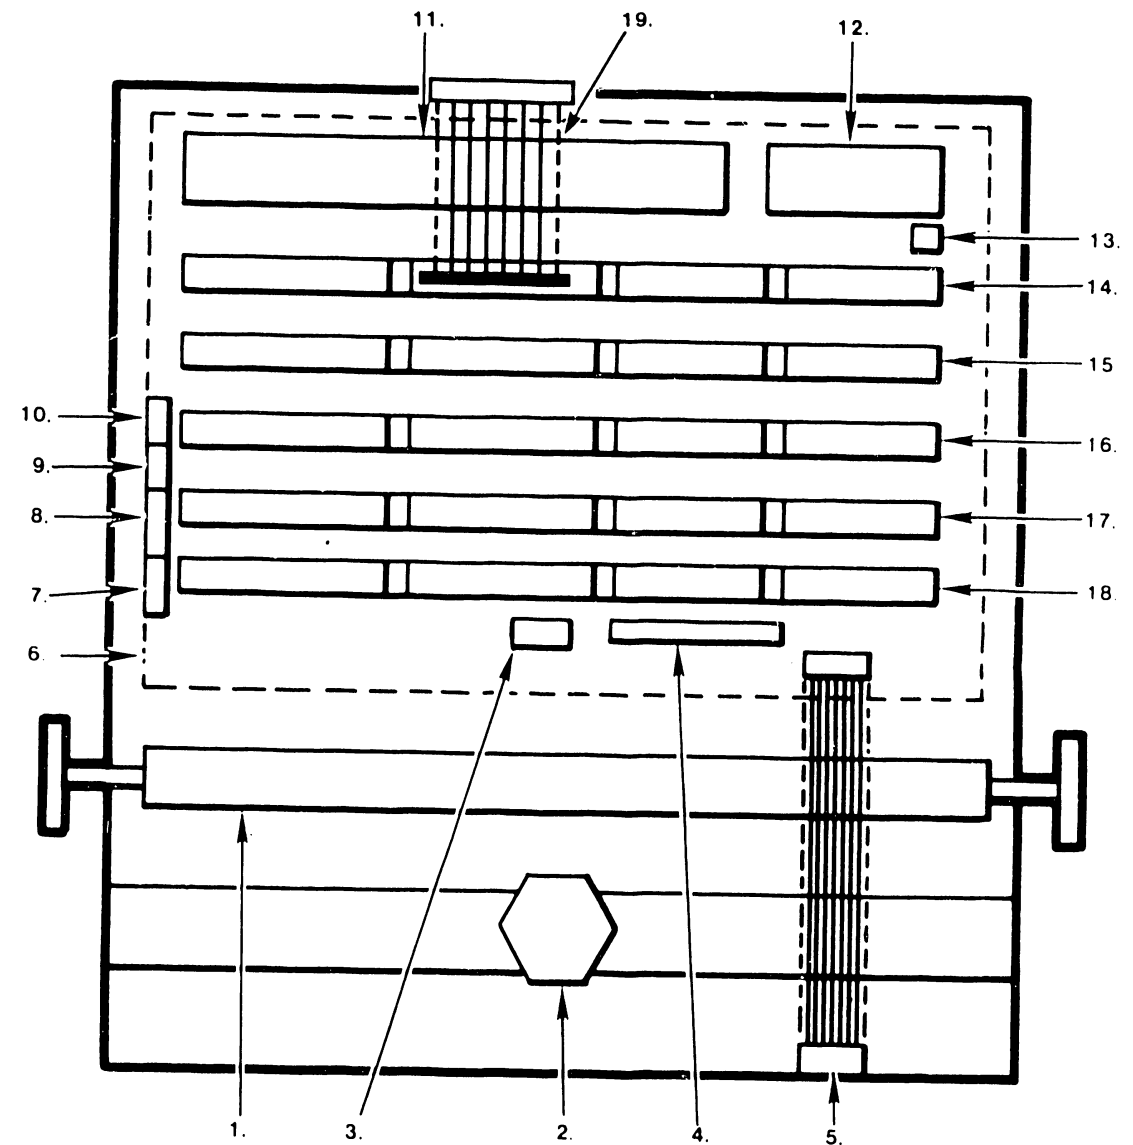

FIGURE 1-2 WANG DAISY PRINTERS PCB AND CONNECTOR CONFIGURATION
Table 1-1 lists the chassis, PCB's and cables used in the printers for various system configurations. Figure 1-2 shows the printed circuit board locations for the different system configurations.
Only one motherboard (WPN 210-7462) is used in all versions of the Wang Daisy Printer. BNC and TNC connectors are standard on all motherboards. For parallel I/O cable interfacing (5541W/WC), a female cable (WPN 220-3069) is mounted to the chassis then internally connected to the top of interface PCA 210-7449 or 210-7449-1 as shown in 19, Figure 1-2. For the 2200 system using 7443-1B, 7309A or 7726A PCB's an I/O cable (WPN 220-0161) is inserted into the right most connector of the memory slot (nearest the fan), routed to the right and then in front of the ON/OFF switch, along the rear panel and out through the cutout in the rear panel to the system as shown below:
6. Check that the required PCB's are installed in the appropriate locations as listed in Table 1-1 and shown in Figure 1-2.
* SEE FIGURE 1-2 FOR PCB LOCATIONS. KEEP HANDS AWAY *